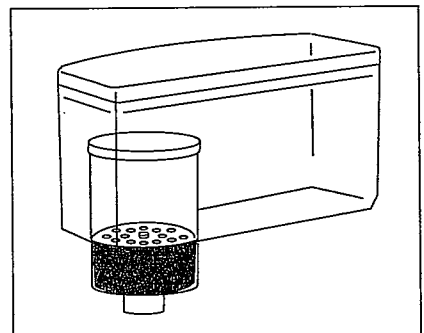

Figure 3
3. Insert Filter into Water Tank and press down until Filter sits properly in place (Figure 3). To be sure Filter is attached properly, turn empty Water Tank upside down. If attached properly, the Filter will stay in position.